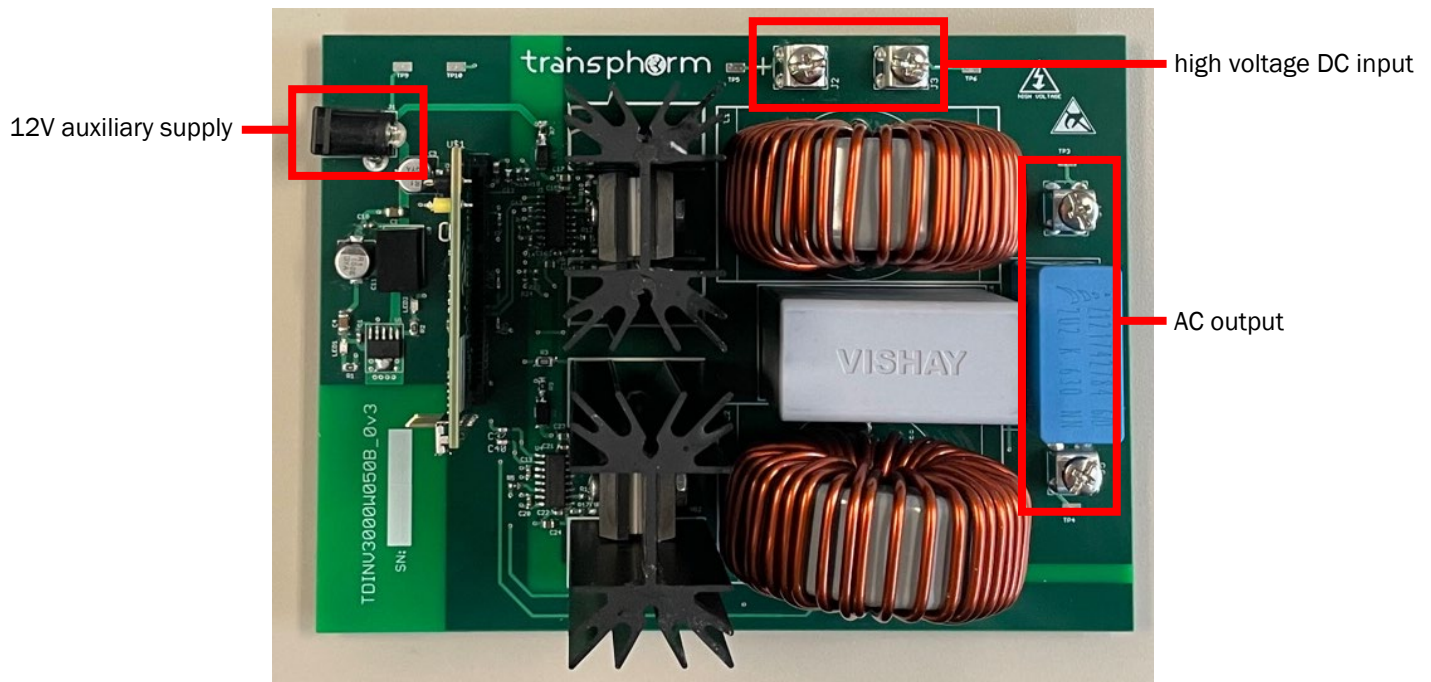

Figure 4. Connections
- Refer to Figure 4. Insert the microcontroller card to the 60-pin socket before applying any power to the board